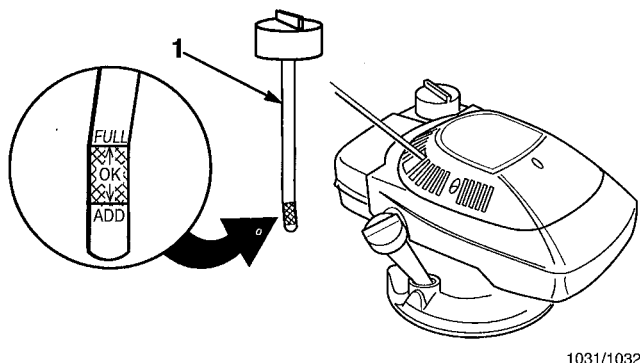

Figure 6
1. Check oil level before each use (Fig. 6).
3. Remove dipstick and check oil level (Fig. 6).